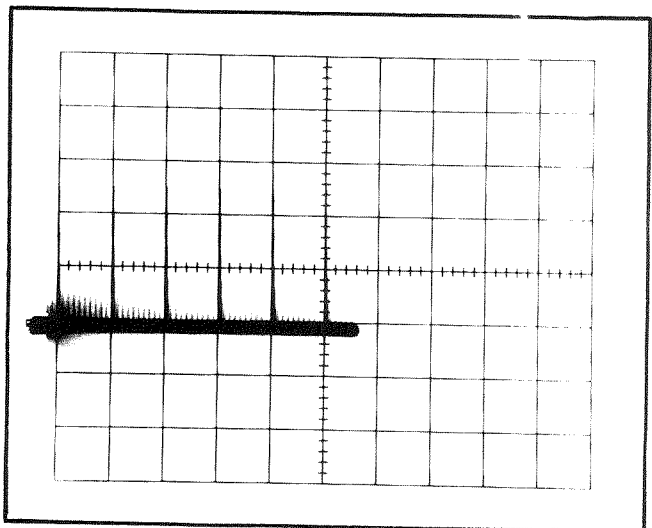

Fig. 5-4. Typical CRT display when checking sweep length.
- b. Move the eleventh 1 ms marker to the center vertical line with the horizontal POSITION control (see Fig. 5-4).